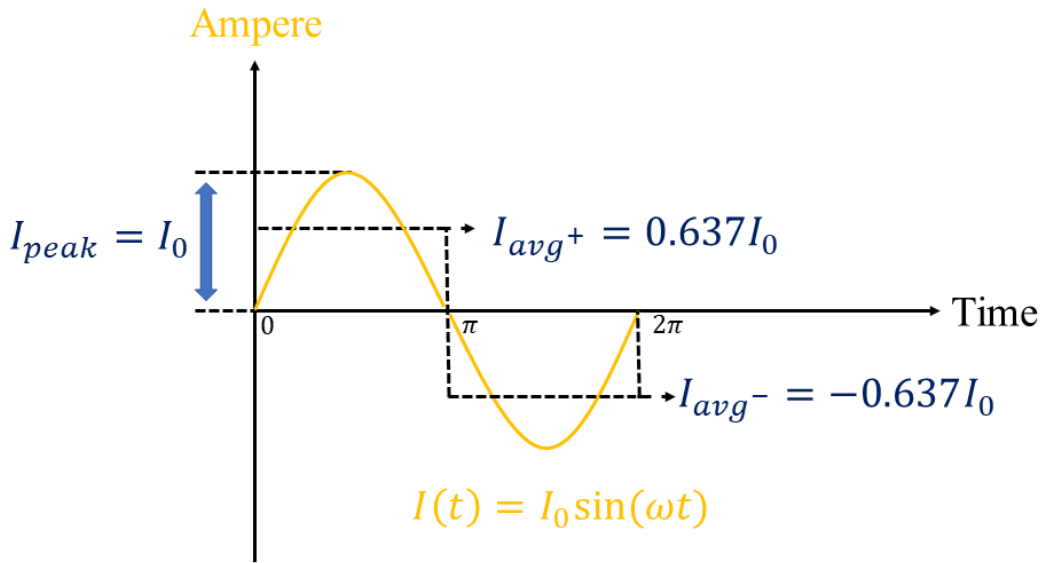

Figure 1.2. The average value of an alternating current (AC) over half period.
From formula (6), we can infer that for a sinusoidal wave function without any offset, the average current in the first half period will be 0.637 times of its peak value I_0 . For the latter half period, we can easily calculate from the same procedures and obtain a negative value $-0.637I_0$. Therefore, the total average current over one period for a non-offset sinusoidal wave will be zero. A schematic diagram for the definition of average current is shown in **Fig. 1.2**.